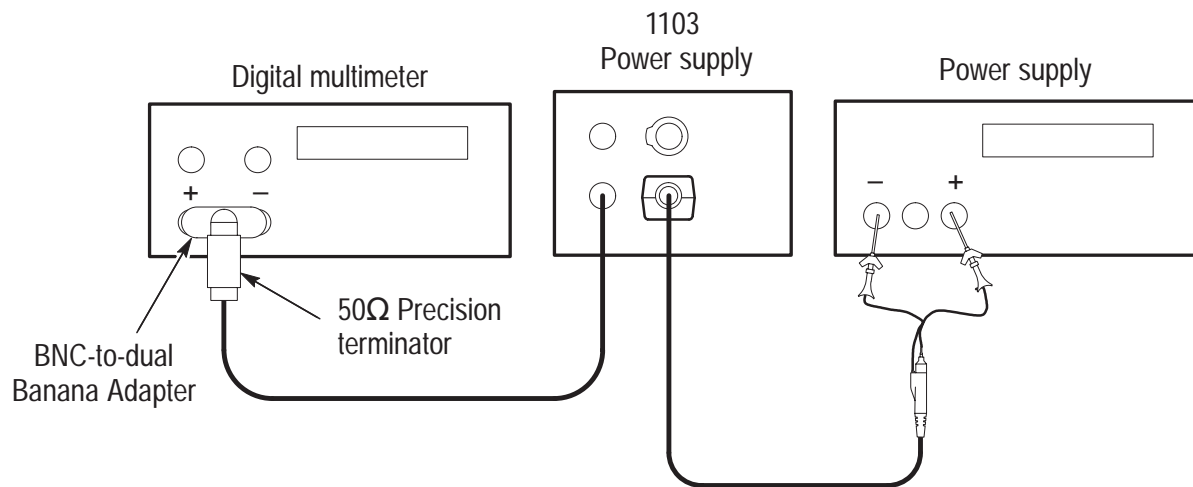

Figure 17: P6249 offset range setup
3. Connect the equipment as shown in Figure 17. Take care not to disturb the offset level setting on the 1103 power supply.